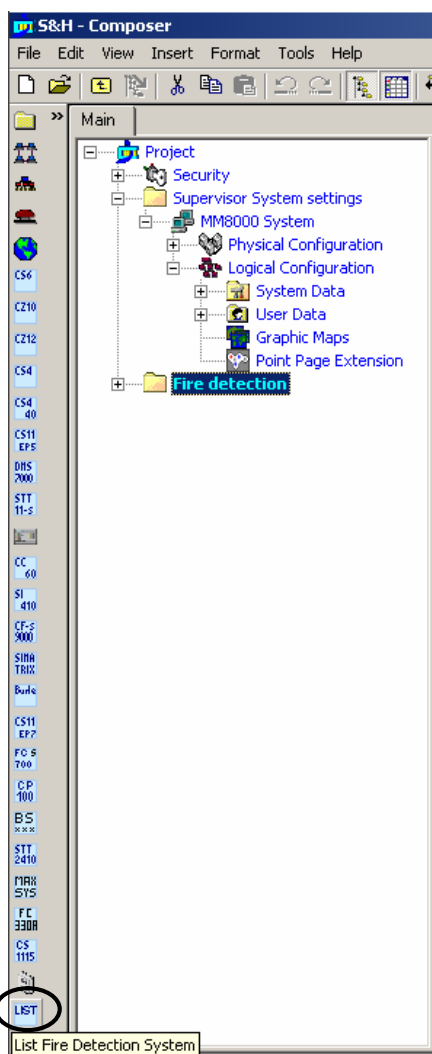

Fig. 10 Adding an LIST subsystem
2. Select the LIST icon  (see Fig. 10):